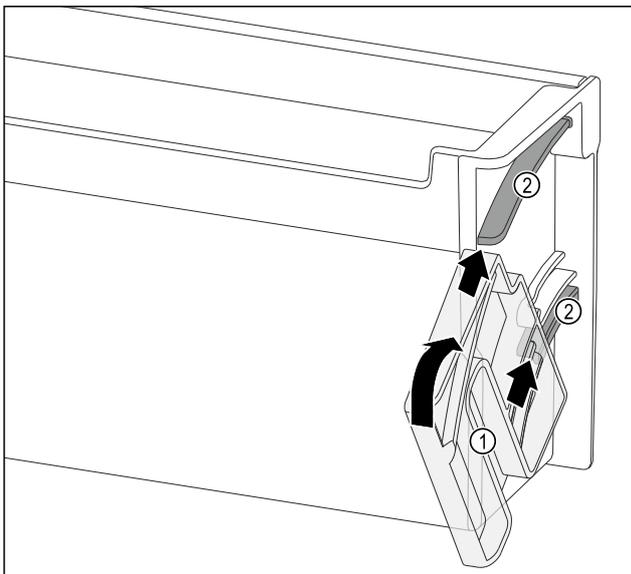

Fig. 100
- ▶ Position the turning unit Fig. 100 (1) so that the recesses are exactly opposite the guide channels Fig. 100 (2) of the door rack.
- ▶ Turn the turning unit Fig. 100 (1) towards the specified direction.